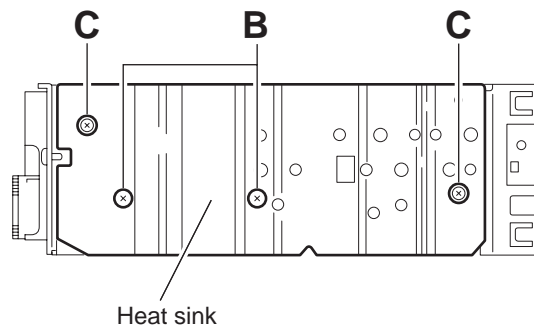

Fig.4
2.1.4 Removing the heat sink (See Fig.4)
2.2.3 Removing the cassette hanger assembly / cassette holder (See Fig.4 to 7)